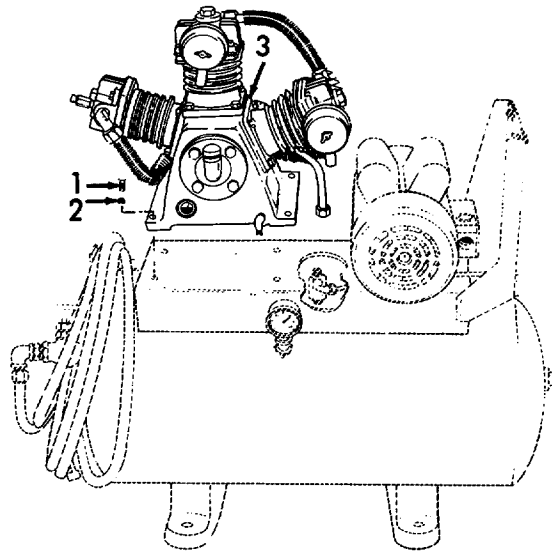

Figure 3-18. Air Compressor, Installation.
- (1) Inspect for missing or damaged hardware.
- (2) Inspect air compressor for damage.
e. Installation. (Refer to Figure 3-18).